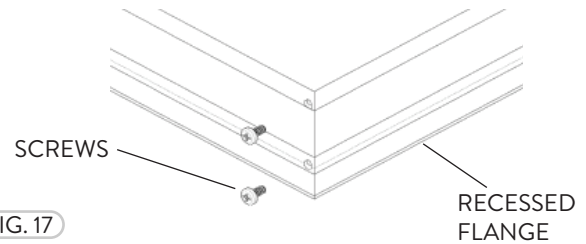

FIG. 17
- 1 Start off by assembling the Recessed Flanges together by fastening the Screws to the corners of the Recessed Flanges (Fig. 17).